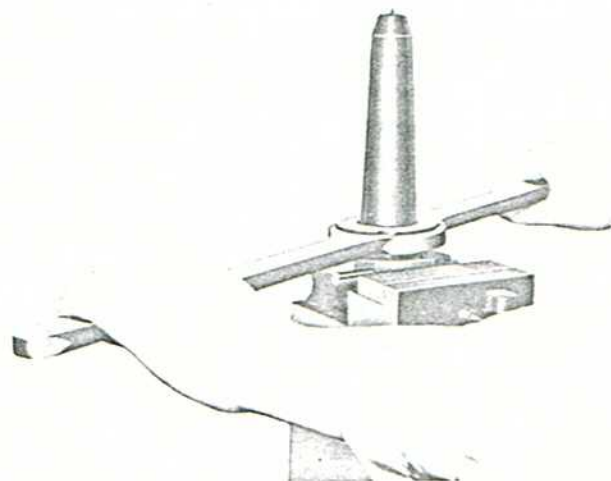

Fig. 6 - Loosening Injector Nut
5. Invert the injector in the vise. Using wrench #8032655 loosen the injector nut, Fig. 6. Unscrew the nut by hand and lift it straight up so as not to disturb the parts underneath.